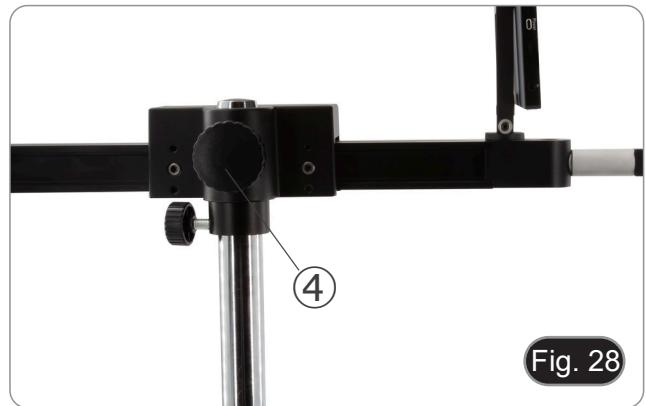

Fig. 28
1. Loosen the horizontal arm locking knob ④ and rotate the arm, then retighten the knob. (Fig. 28)